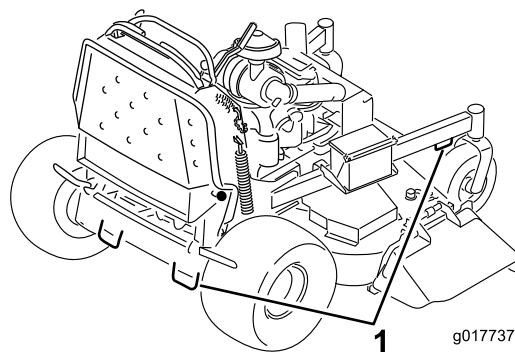

Figure 23
- Use the metal tie down loops on the machine to securely fasten the machine to the trailer or truck with straps, chains, cable, or ropes (Figure 23).